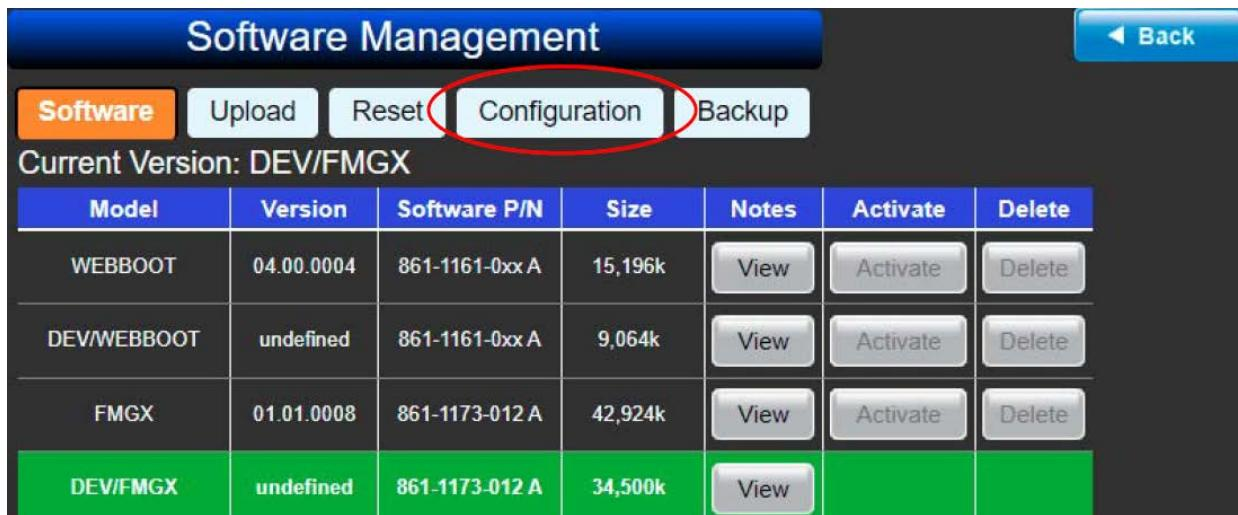
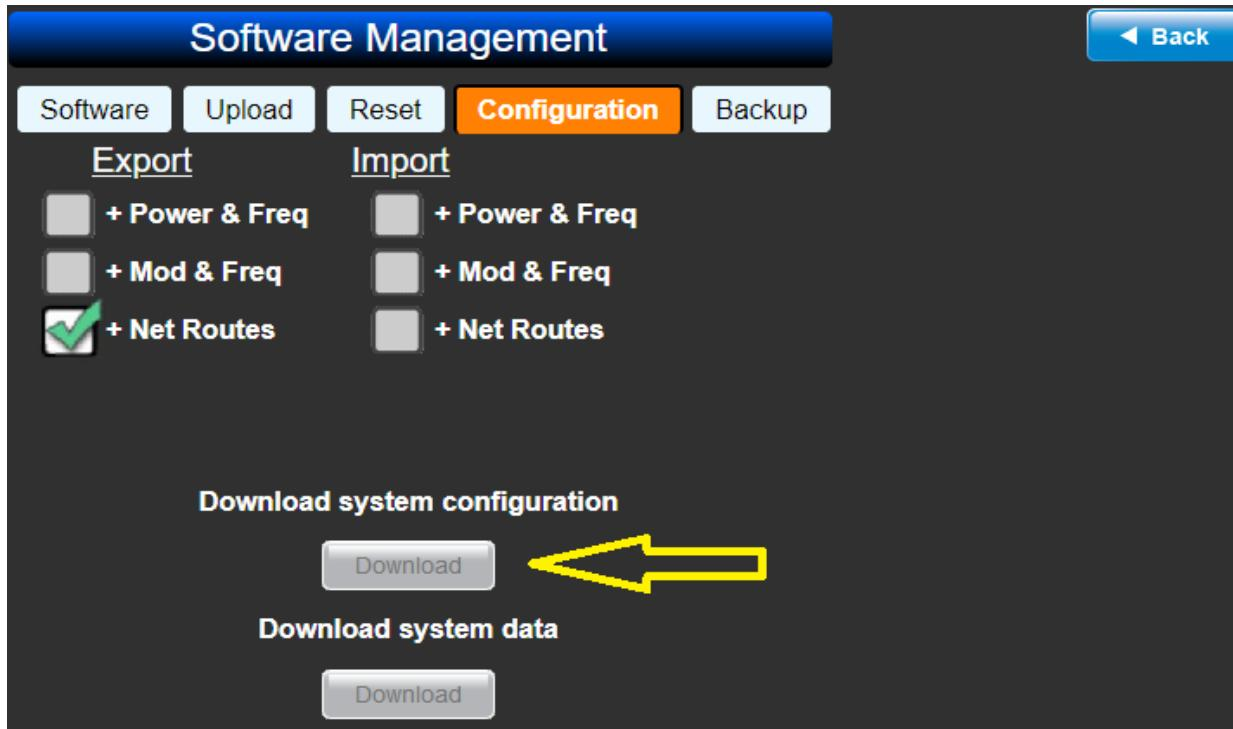

Figure 6-1 GX GUI ISP Screen
Figure 6-2 Export/Import Screen
- STEP 2 Open a web browser and establish a connection, once there is a connection, navigate from the HOME page select the *Menu button* and then to the *Setup >> Update* button to open the Software Management main screen shown in Figure 6-1.
STEP 3 Click on the **Configuration** button circled in Figure 6-1 to open the it's sub-menu screen, *Export/Import* in Figure 6-2.
STEP 4 Check the box: **Export +Net Routes** circled in Figure 6-2 and then click the *Download System Configuration* button. The file will be downloaded and in your download folder on the computer. Move it in a special folder for future retrieval.